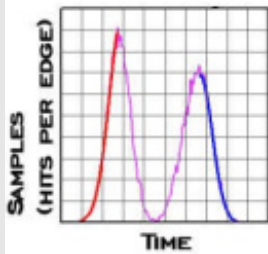

**Figure 2 - Histogram Period Measurement**
Basic statistics displayed on the Histogram Summary View are: Mean, Min, Max, 1-sigma, peak-to-peak, and number of hits (Figure 2).
We can now see additional values in Figure 3 summary view at the top (which were not available in Figure 2). The first value is Total Jitter (TJ), which includes contributions from all deterministic and random components, and is a pk-pk value specified for a Bit Error Rate (BER), or amount of time. The Bathtub curve shows the TJ as a function of BER or time. To predict TJ, we must measure DJ and RJ accurately. Random jitter (RJ) is characterized by a Gaussian distribution and assumed to be unbounded. As a result, it generally affects long-term device stability. Because RJ is Gaussian in nature, the distribution is quantified by the standard deviation ( $1\sigma$ ) and mean ( $\mu$ ). Because RJ can be modeled as a Gaussian distribution, it can be used to predict pk-pk jitter as a function of BER or time. The Tail-Fit™ algorithm curve fits a Gaussian model independently to the right and left sides of the distribution. The Values of DJ, LtRMS (left-tail RJ), and RtRMS (right-tail RJ) are displayed below the TJ. Chi-squared values are also displayed as an indication of the goodness of fit from model to acquired measurements. Once DJ has been found, we can determine the causes.
**Figure 4 - 1-Sigma values vs. number of periods skipped. Analysis of 2GHz clock from Figure 2. Note that this is a zoomed view to show details every couple of edges.**